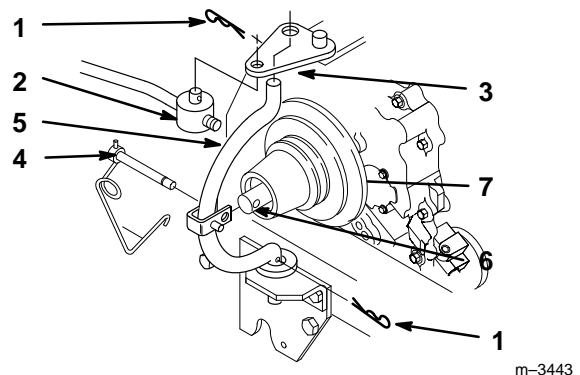

Figure 15
4. Remove hairpin cotters from trunnion and bottom of yoke (Fig. 15).
5. Unlatch and remove locking clevis pin that secures yoke assembly to clutch shaft. Pivot yoke out and forward to remove from clutch shaft and engagement plate (Fig. 15).
6. Remove belt from pulley (Fig. 15).
7. Assemble yoke and engagement plate and attach locking clevis pin, trunnion and hairpin cotters to secure (Fig. 15).